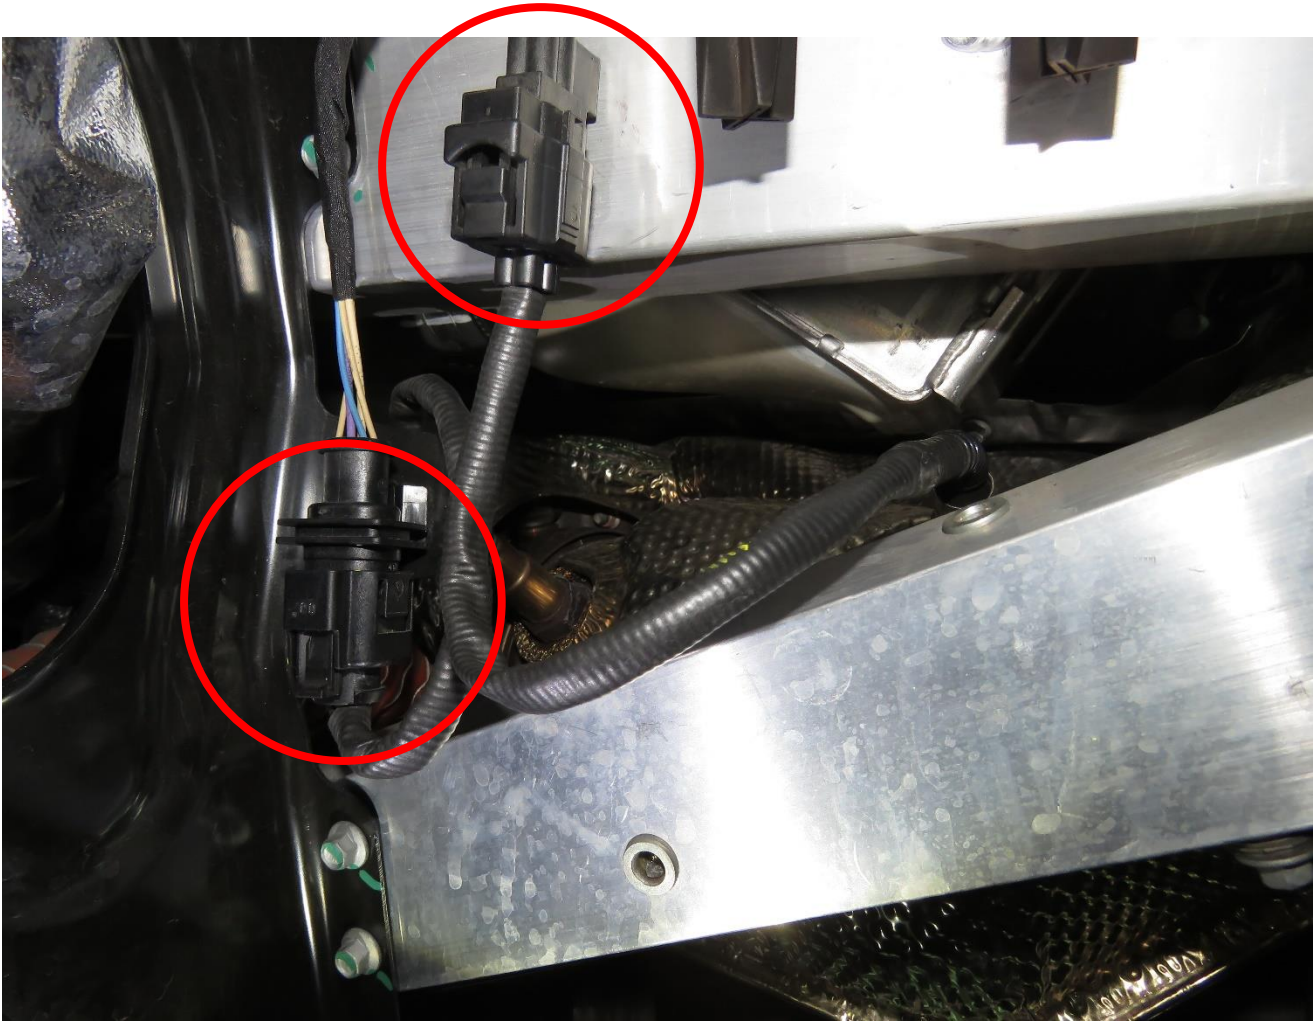

Fig. 9
13. Unplug the oxygen sensor. (Fig 9)